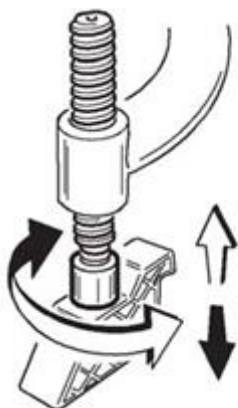

Fig. 15
**If, during operation, the bead pressing tool (4) is not pressed adequately (too much or too few), it is necessary to adjust its height by the screwing the screw as shown in the figure 15.**